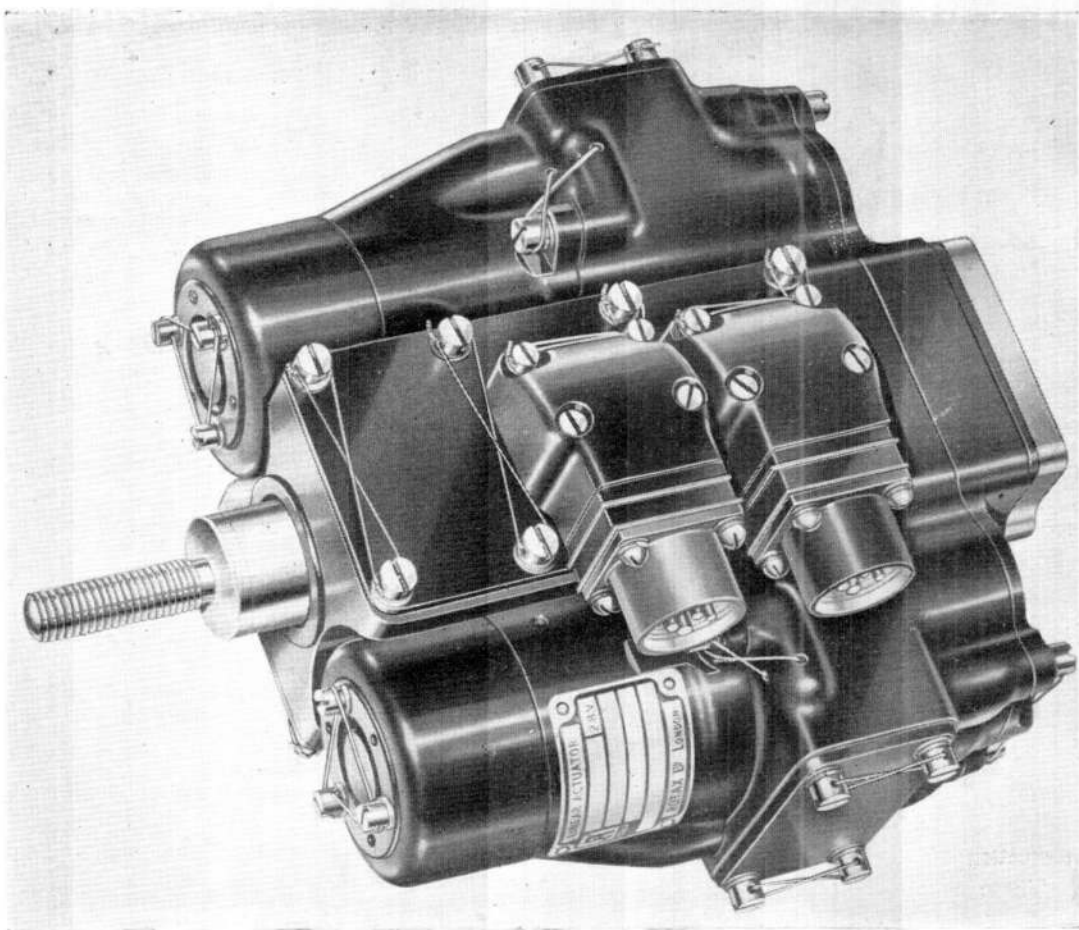

Fig. 1. Actuator, typical of Type A1700 series
2. The various types forming the A1700 series (fig. 1) are of the same general construction and differences between any one type and the basic type is confined to the amount and speed of ram travel. In external appearance, however, the position of the supply plugs may vary, being in either one of two positions, to suit the requirements of the installation for a particular type of unit. From one position, the alternative is obtained by traversing the mounting plate through 180 deg. For information relating to a particular type of actuator in the A1700 series, reference should be made to the appropriate Chapter in A.P.4343D, Vol. 1, Sect. 14.